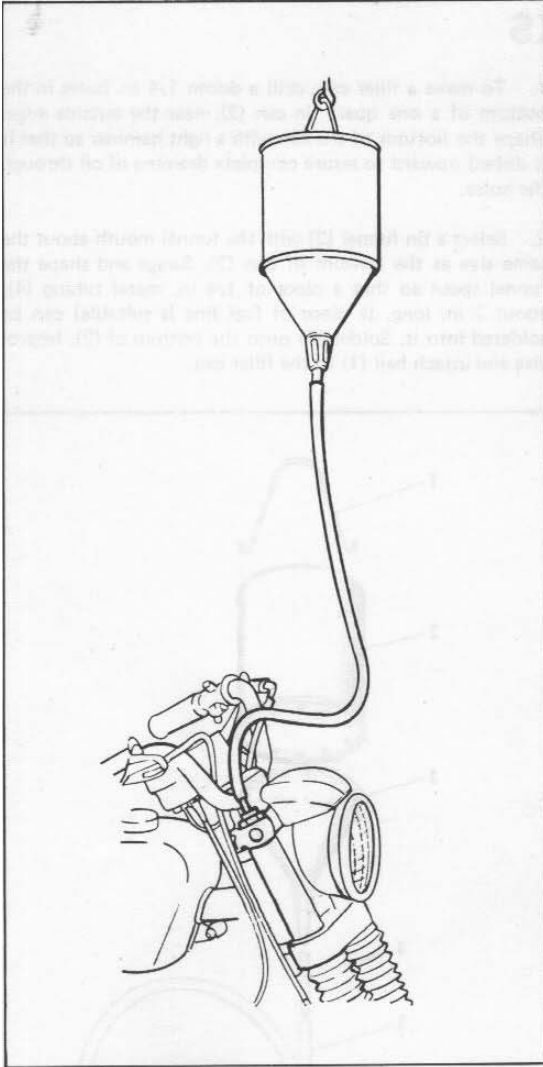

Figure 2-25. Filling Hydraulic Fork with Oil
3. Make plug (7) from a neoprene bottle stopper purchased from a drug store. Neoprene stopper should be 1 in. to 1-1/8 in. long, and its largest diameter about 5/8 in.
5. Slightly flare one end of a piece of 1/4 in. tubing (6), about 2 in. long and insert into plug (7). Attach filler can to plug with transparent flexible tubing (5) about 2 feet long. See figure 2-25.
6. Push the plug into the filler hole in fork top, figure 2-25. Pour exact amount of oil into can. Work fork up and down. Air escaping through oil in filler can as fork is pushed downward will cause the oil to bubble violently, but because the bottom of the can serves as a baffle, no oil will be lost. Compressing the fork forces air out, releasing it draws oil into fork.